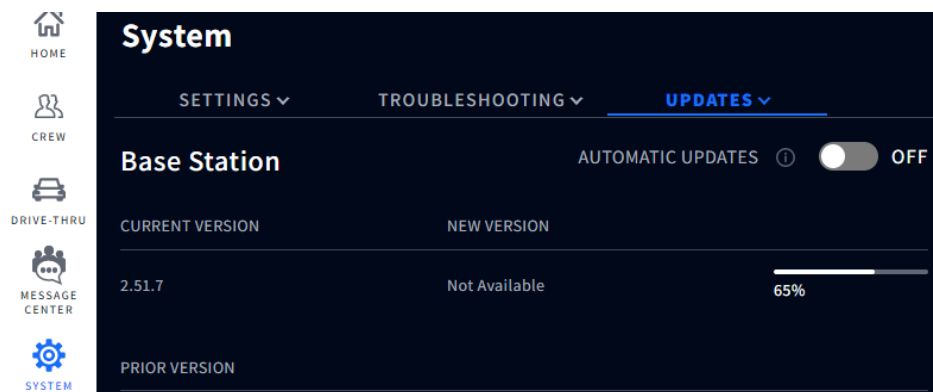

Fig. 14.9
5. The update begins and provides a progress status via the progress bar showing the completion percentage, see Fig. 14.9. The red exclamation mark disappears when the update is initiated.